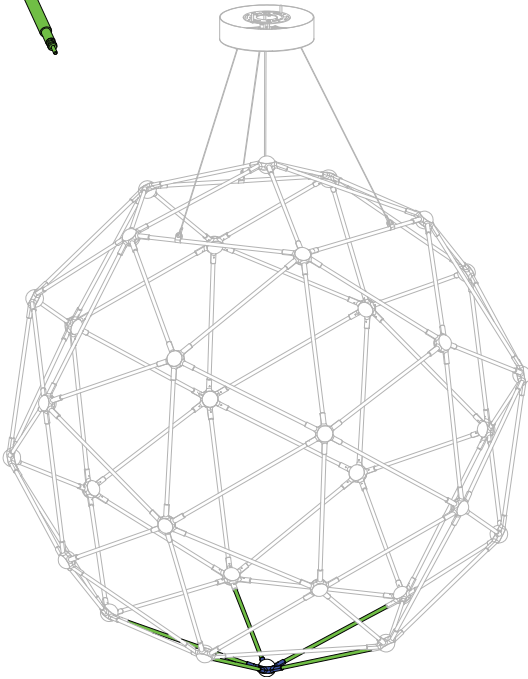

Fig. 3
- c. Fig. 3 shows this step in the context of the assembly as a whole.